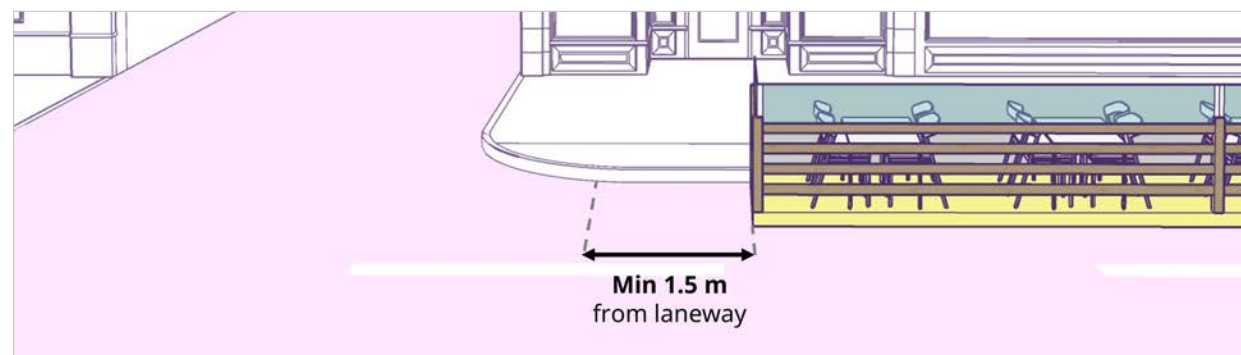

Figure 6: Clearance from a laneway
- f. A minimum **1.5 m** from a laneway (see *Figure 6*).